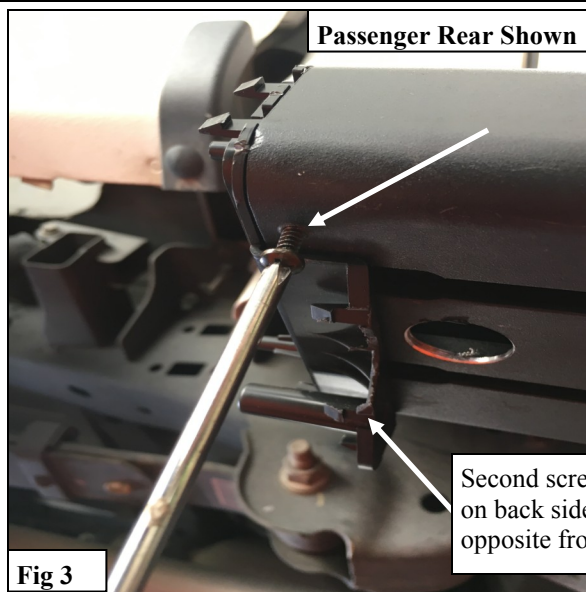

Fig 3
2. If an unlighted end cap is already installed, remove it by unscrewing the two Phillips head screws on the underside of the step bar. Use **Figure 3** for reference.
6. Using the supplied Phillips Screws (6), secure the Inner Plastic Mount (3-4) to the step board. See **Figure 3**.